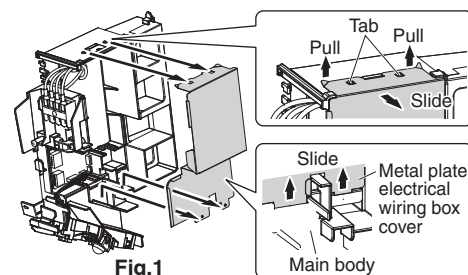

Fig.1
- 2) Remove the metal plate electrical wiring box cover. (4 tabs) (See Fig.1)